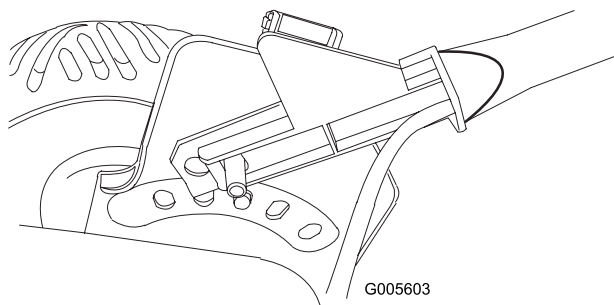

Figure 5
3. While holding the left lower handle end in position, slip the cable guide onto the right lower handle end, push the handle end and cable guide inward, and install it onto the pin on the right handle bracket (Figure 5).